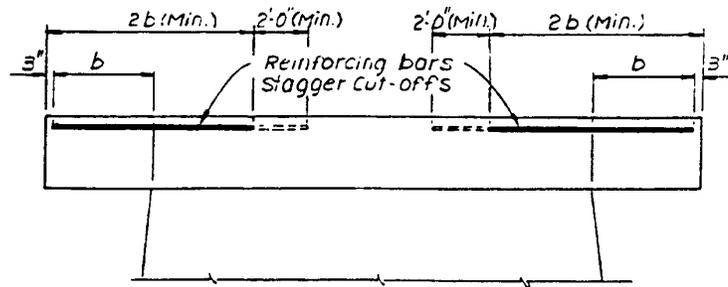

Fig. 12-1 DETAIL SHOWING REINFORCING BAR CUT-OFFS IN CANTILEVER PIER CAP
- (f) When cutting off bars in cantilever pier caps, the reinforcing steel shall extend into the cap, shown in Figure 12-1.